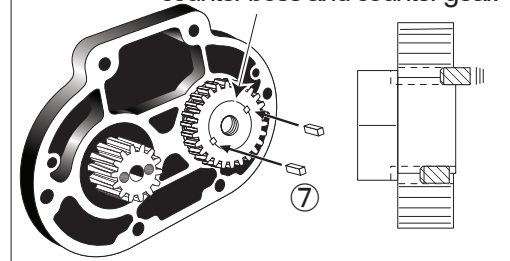

Figure 6
See Figure 6. Apply LockTite#271 (Red) to the thread of bolt⑥. Install bolt with the washer to the counter nut. Tighten the bolt⑥ to **56ft-lbs (75Nm)**.